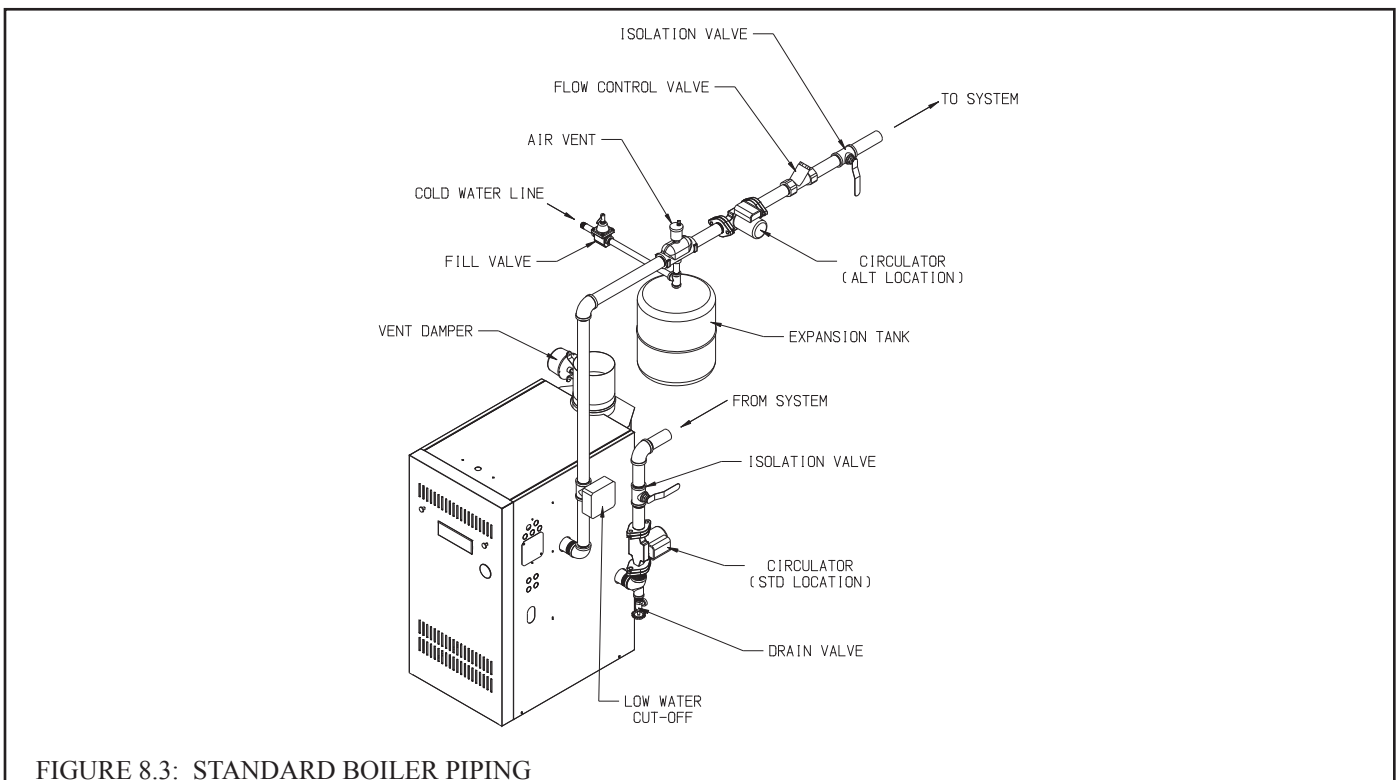

FIGURE 8.3: STANDARD BOILER PIPING
Figure 8.3 shows typical boiler system connections on a single zone system. Additional information on hydronic system design may be found in the *I=B=R* Guide RHH published by the Air-Conditioning, Heating and Refrigeration Institute (AHRI). The components in this system and their purposes are as follows:
- 2) Circulator (Required) - The circulator is shipped loose with the boiler. Fittings are provided to mount it on the boiler return as shown in Figure 8.3, however it can be installed on the boiler supply. If the circulator is moved to the supply it should be positioned just downstream of the expansion tank as shown in Figure 8.3.